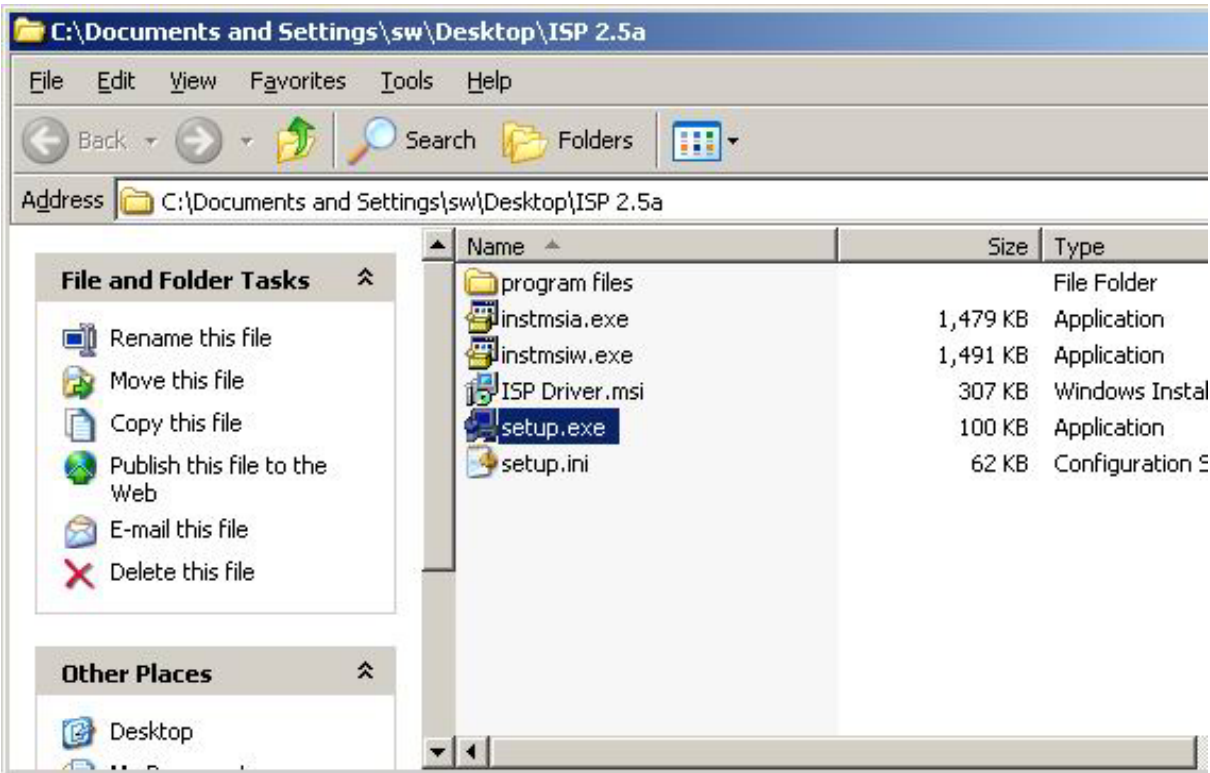

Fig 1.0
- 2. After extracting the ZIP file , the total files list as Fig 1.0 , and double click the file of setup.exe to install.